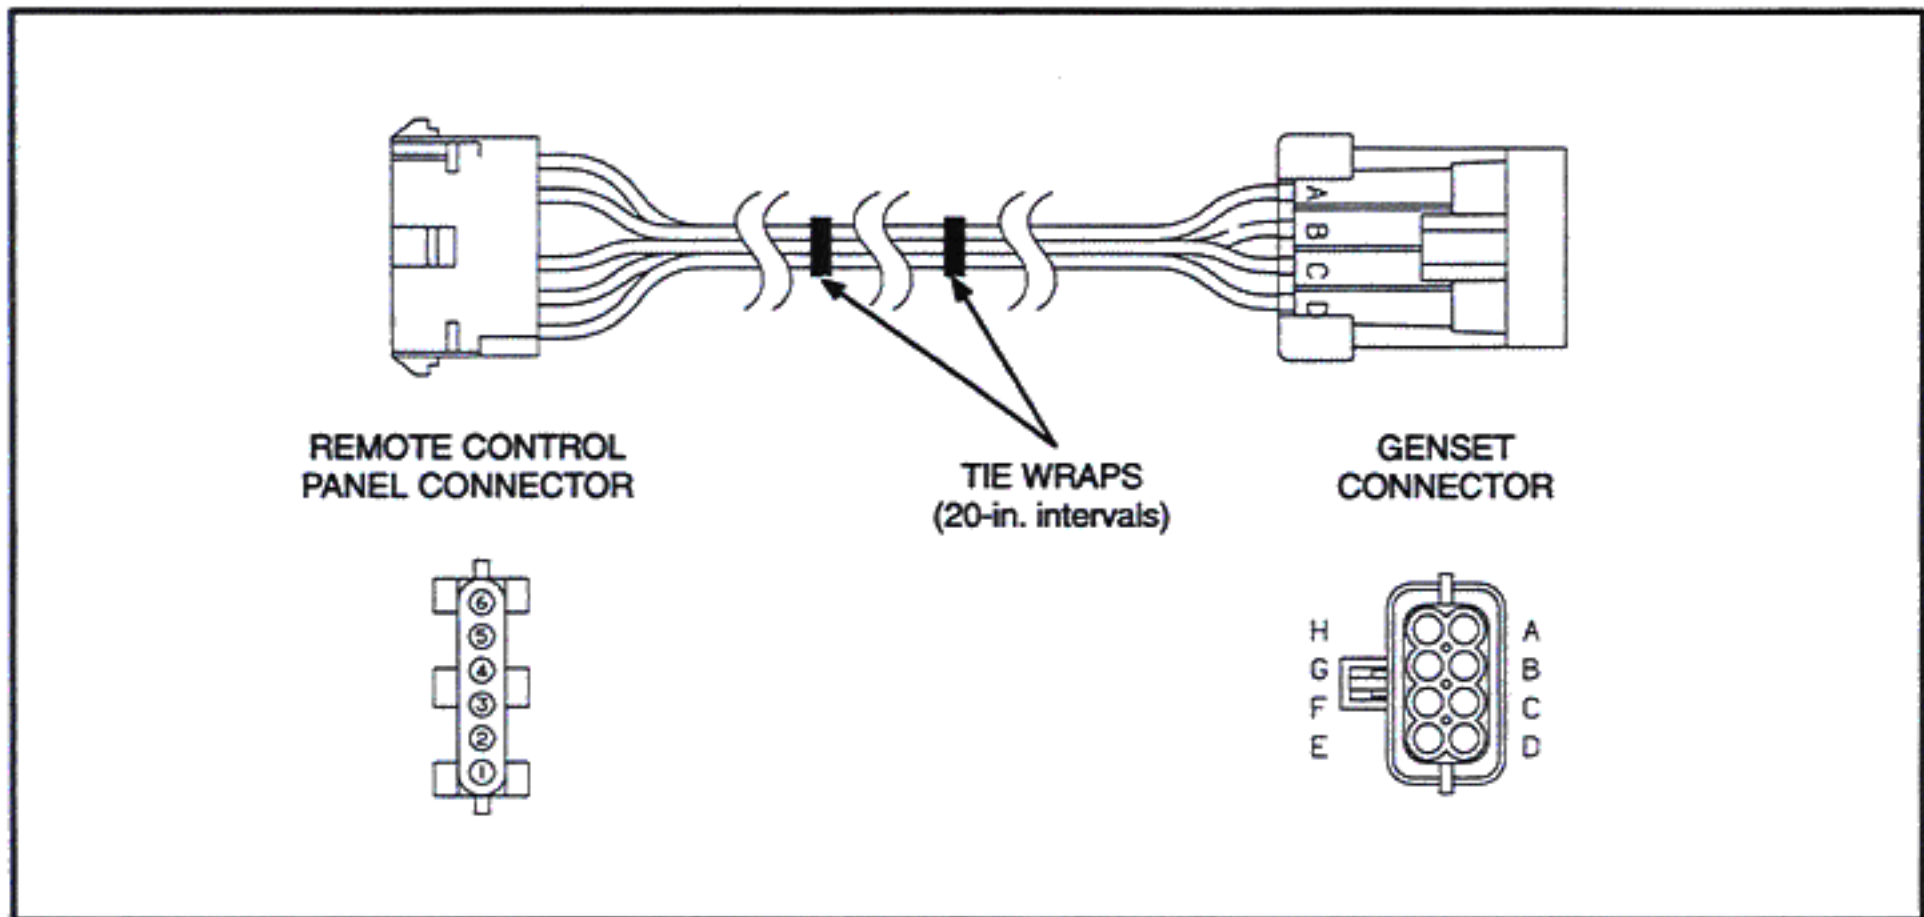
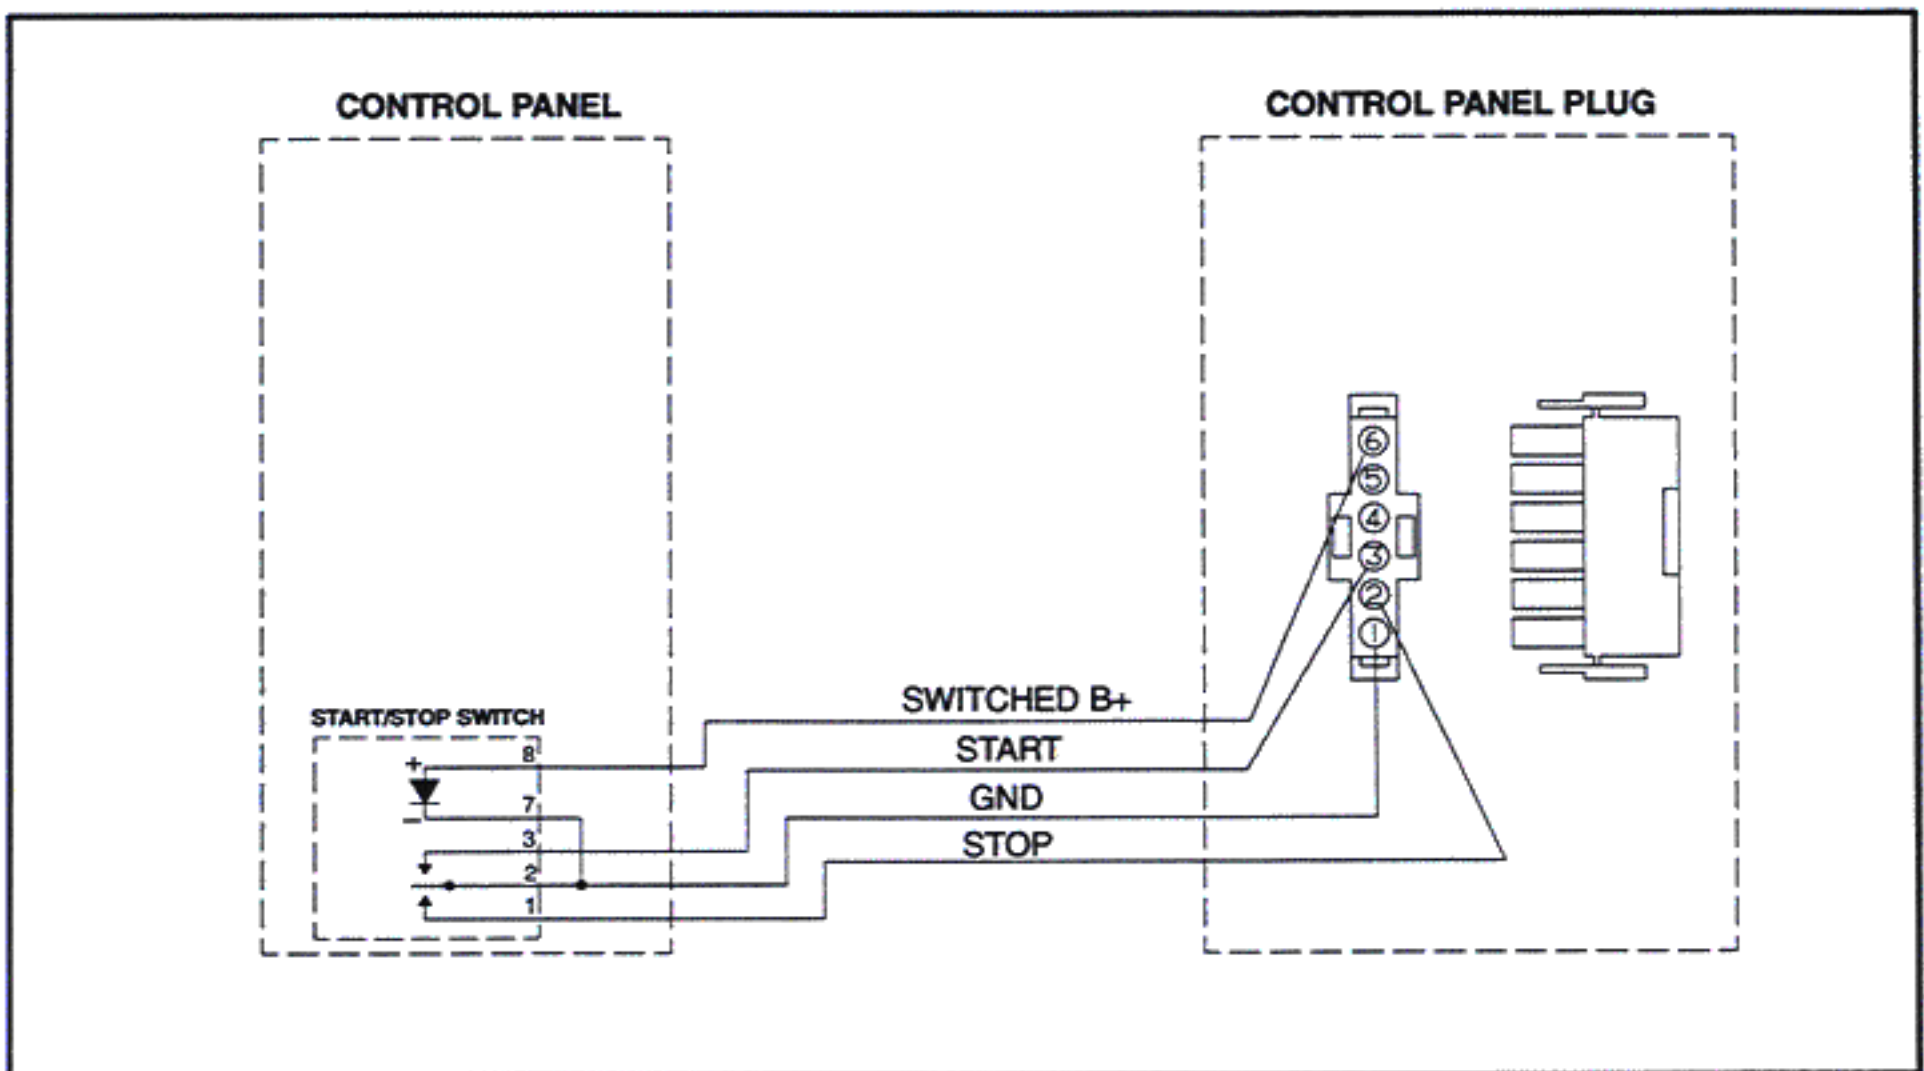

FIGURE 4. REMOTE PANEL HARNESS
FIGURE 5. KIT 300-4936 REMOTE CONTROL WIRING DIAGRAM
- Two ready-made harnesses are available from Onan to connect the remote control panel to the genset. See Figure 4.
- Modify either of the ready-made harnesses by cutting them and splicing in user supplied wires of additional length. See Figure 4.
- Connectors with pig-tails for both the control panel end and the genset end are available from Onan to connect to user supplied intermediate wires. Connectors are identical to those shown in Figure 4.
- Connectors and end terminals (not assembled) for both the control panel end and the genset end are available from Onan and the supplier to connect to user supplied intermediate wires. This method is recommended only for high volume users. Connectors are identical to those shown in Figure 4.
The ready-made harnesses can either be used as is or modified by cutting them and splicing in user supplied wires of additional length. See Figure 4.
- At the genset end of the harness, determine which terminal goes into which position in the connector body by referring to Figures 5, 6, and 7 for the panel connector terminal locations and to Table 2 for the corresponding genset terminal locations. Refer to Figure 4 for the genset connector terminal locations. Make sure to properly install wire seals and plugs in the genset connector to form a water-tight seal.
If any of the panel functions do not operate properly, proceed as follows. Refer to Figures 5, 6, and 7 for wiring diagrams of the remote control panels.